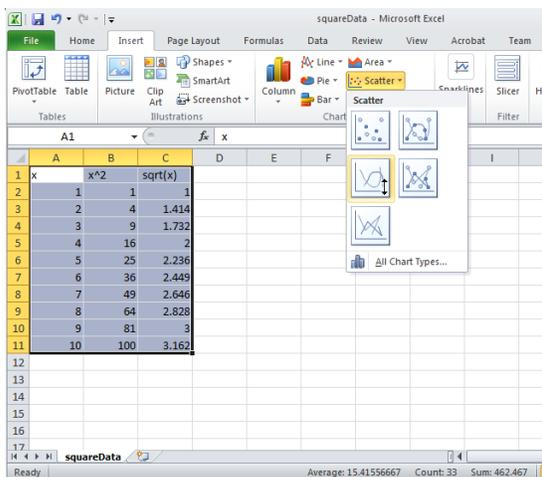
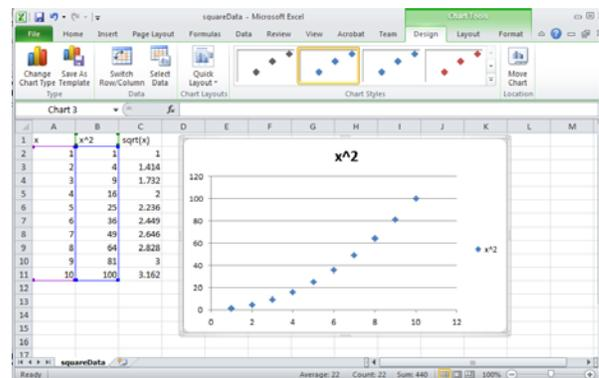

Figure 1C: Excel opens the resulting `squareData.csv` file. One can then select data for a scatter plot.
Figure 1D: Scatter plot of first 2 columns of data reveal the expected parabolic curve resulting from computing the square of values.
Step 11: Double-click on the version of `squareData.csv` that is saved on your PC. Excel should already be configured to open CSV (comma-separated files), resulting in **Figure 1C**. **Figure 1D** shows the resulting scatter plot of the first 2 columns.